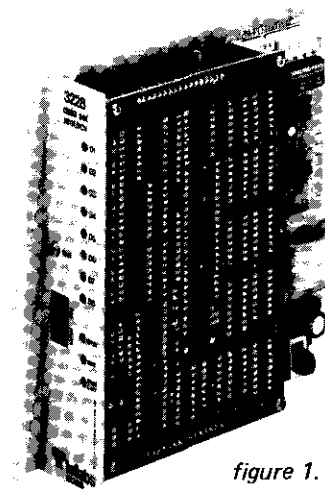

figure 1. 3228 Data Set Transmit/Receive module
1.01 The 3228 Data Set Transmit/Receive module (figure 1) facilitates the transfer of low-speed data pulses or level information between remote locations and a central site over a 2wire voice-frequency transmission facility. This type of data is commonly encountered in alarm and supervisory signal-monitoring applications. The 3228 serves up to eight independent data channels and uses a frequency-shift-keying (FSK) data transmission format compatible with the Bell System 202 FSK format.